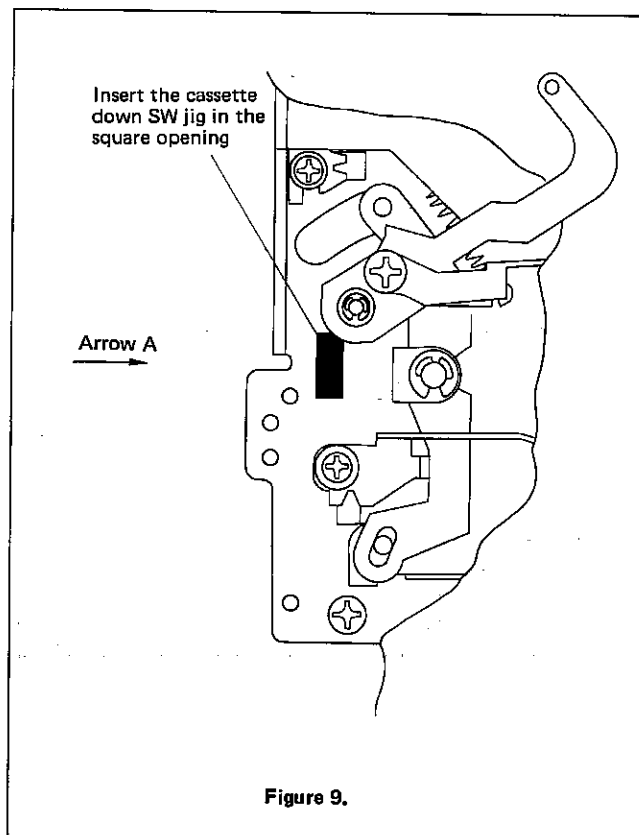

Figure 9.
1. With the cassette housing removed, fit the cassette down SW jig shown in Figure 6 to the square opening in Figure 9.
1. With the cassette housing removed, fit the cassette down SW jig 13 shown in Figure 6 to the square opening in Figure 9.